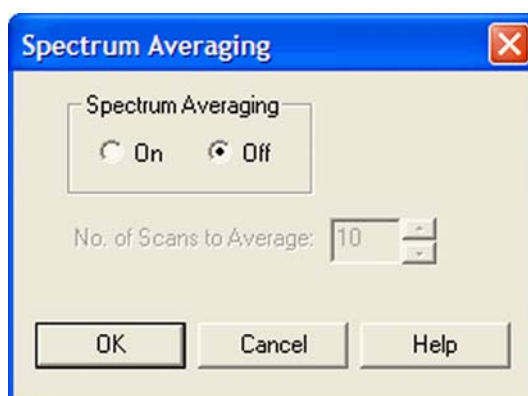

Figure 2-11. Spectrum Averaging dialog box
1. In the Tune Plus window, choose **Display > Spectrum Averaging > Settings...** to display the Spectrum Averaging dialog box. See Figure 2-11.